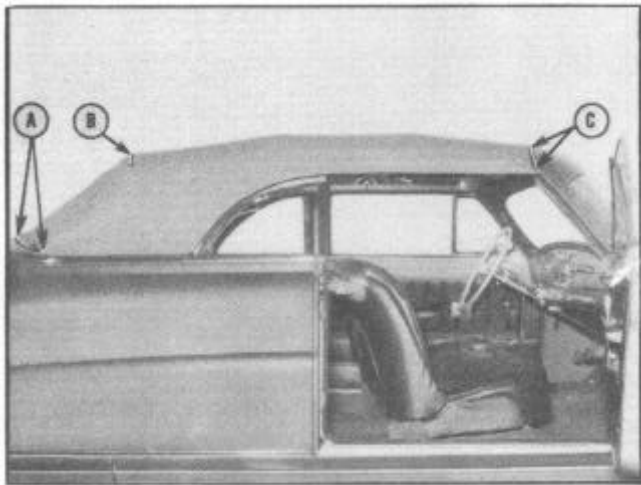

FIGURE 133
1. Remove snap fasteners and chrome moulding from rear belt line (A), Figure 133.
2. Remove 6 Phillips head screws and tacks from top and rear curtain at belt line (A).
3. Remove chrome moulding and retainer from top at rear bow (B).
4. Remove all tacks from top at rear bow (B). Fold top material forward over bows.
5. Remove tacks from top side pads at rear bow (B). Fold pads forward over bows.
6. Remove tacks from rear curtain at rear top bow (B) and remove rear curtain.
7. Remove top, front header rear chrome moulding (C) (narrow) and retainer.
8. Remove all tacks from top at front header (C). Remove top material and clean all sealing compound from area between two top front header chrome mouldings. Lightly hammer down all tack holes in all tacking strips.